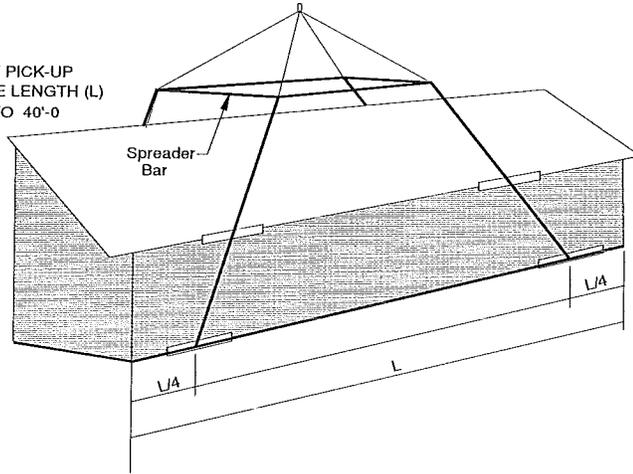

Figure 7 - 2 Point Pick-up
7. If home being set does not have crane-ready floor system, crane straps/cables should be positioned as shown in figures 7 & 8. Cable holes may be drilled in perimeter joists 2" minimum from bottom of joists (exterior side only). This will prevent lifting straps or cables from being trapped between sill plate and floor system. The rim joists are not to be notched or cut. Install temporary support directly above the drilled cable holes in perimeter joists. This should consist of a 24" 2x4 minimum studwall between ceiling beam and floor where the cable is located in mate line open spans.
Refer to Figure 7 and 8 if pick-up points need to be determined on site.